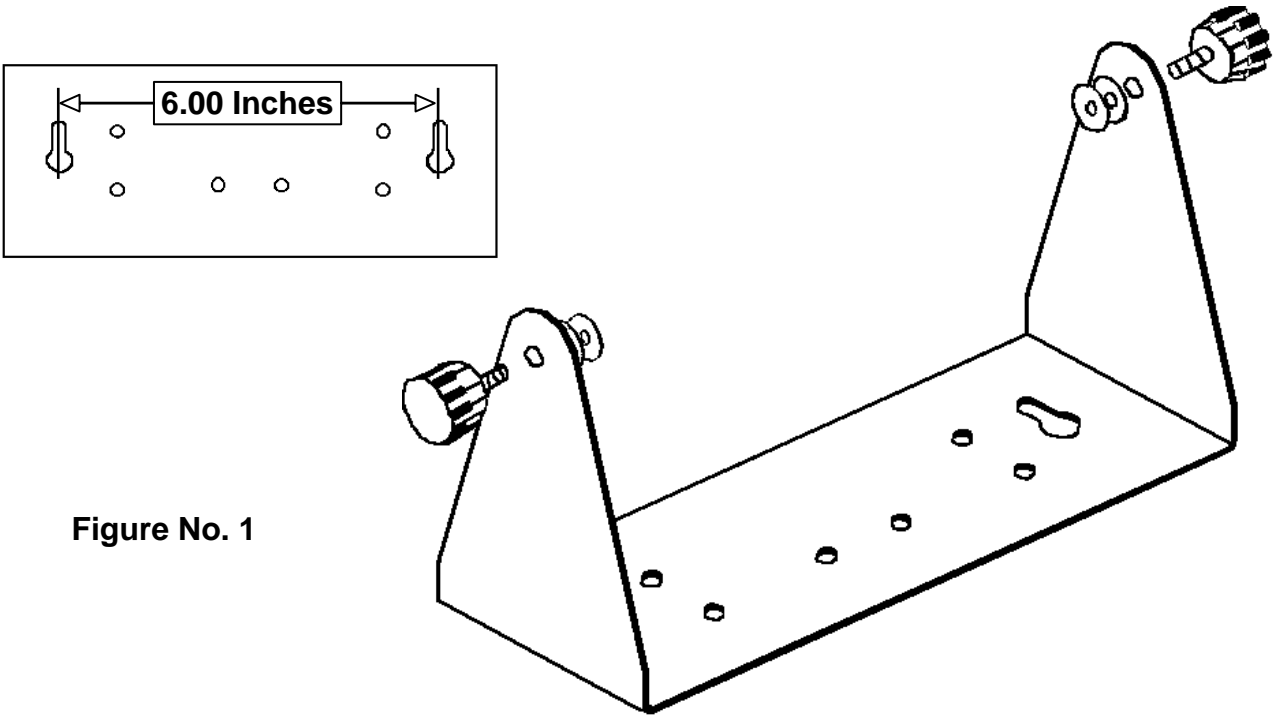

Figure No. 1
Begin the installation by deciding where the indicator is to be mounted. The 204 indicator may come mounted on a column or you may choose to mount it on a desktop or wall. Refer to Figure No. 1 for illustrations of the mounting bracket. Two (2) holes are located in the mounting bracket for attachment to the wall. This bracket may be removed or left in place for desktop use.
The Model 204 Weight Indicator may be mounted on a desktop or other smooth, flat, horizontal surface or it may be mounted on a wall using two (2) #10 screws placed 6.00 inches apart on the wall. Refer to Figure No. 1.